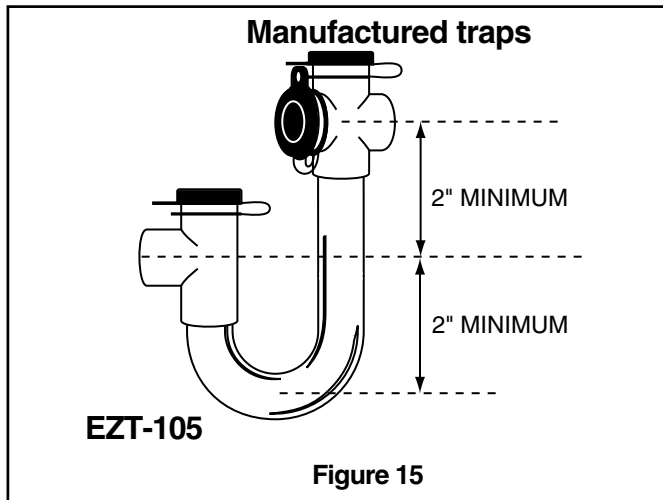

Figure 15
1. The primary drain line must be trapped with a minimum of 2" water seal as shown in Figures 15 & 16. **Do not use preformed 3/4" PVC running traps.**
The use of Field fabricated or manufactured traps as shown in Figures 15 & 16 is acceptable.
The manufactured trap shown in Figure 15 allows for a float switch option to be added. Refer to the manufacturers data and instructions for details.
3. It is recommended that a clean-out tee or cross be installed in the primary drain line for future maintenance (See Figure 15 & 16).